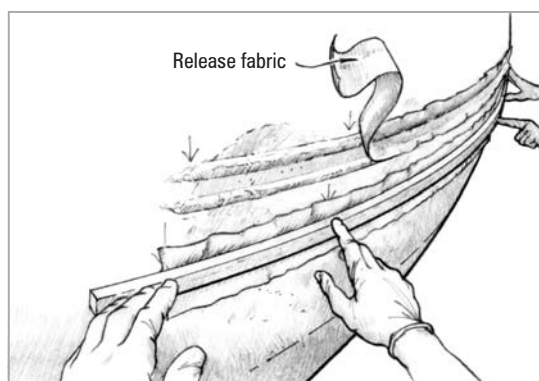

Figure 11 Push the batten into the ridge. Apply pressure only where the batten touched the high spot you marked earlier.
6. Press the batten into the ridge of thickened epoxy until it contacts the high spots in the surface. Push the batten into the ridge. Apply pressure only where the batten touched the high spot you marked earlier (*Figure 11*). If an area of the epoxy ridge is too low to contact the batten, squeeze the sides of the epoxy ridge together under the fabric so that it is forced up to contact the batten. When you're satisfied, carefully remove the batten without disturbing the ridge or the fabric. Repeat the process for each batten guide and allow the epoxy mixture to cure thoroughly.